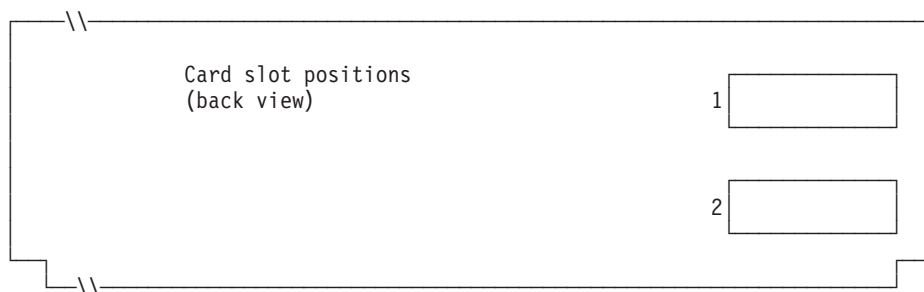

Figure 109. Rear of 4694-2x6 Point-of-Sale Terminal
4. Mark an X on Figure 109 in each card slot that has a Dual Asynchronous Adapter card installed **for use by terminal applications**. Do not mark an X if the card is to be used by applications other than terminal applications use .